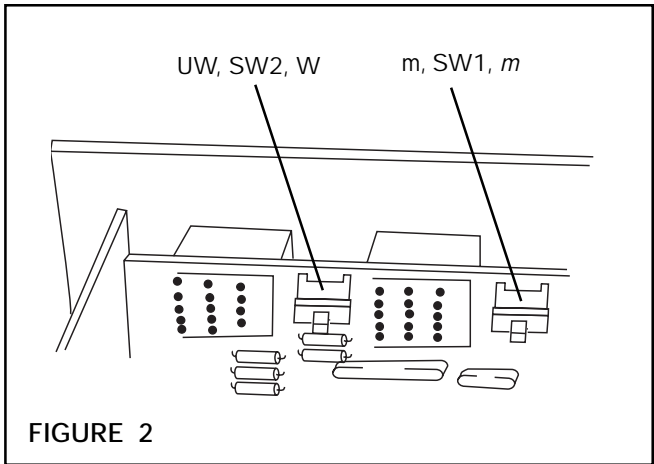

FIGURE 2
3. On the metric model, set SW1 for "m" or "μ". This determines the value of numbers entered in the "t" or Thickness Rotary Switch located on the front panel. The selection of "m" indicates the values will be 0.01-9.99 millimeters. The selection μ resets the values on the "t" Switch to the range of 1-999 microns (μm). On the Inch model, set SW1 Switch to μ. (See Figure 2).
4. Set SW2 to W for wind up clutch control or UW for unwind control (See Figure 2).